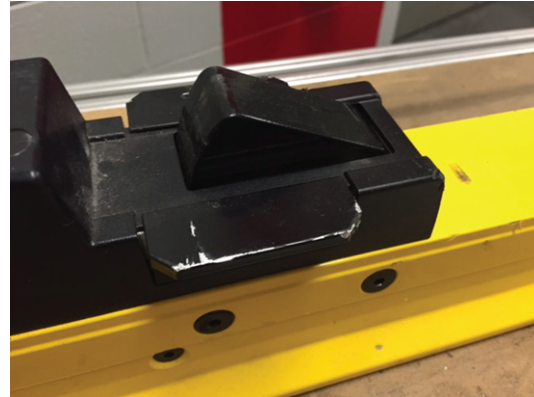

Figure 17:
21. Inspect the pawl mechanism at the head end of the anchor (Figure 17 on page 6). Make sure that the pawl moves freely and returns to its original position after being pressed down.